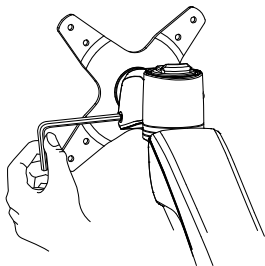

Figure 21
1. While **Supporting** the weight of the **Monitor**, use the **Hex Key** to **Loosen** or **Tighten** the **Tension Adjustment Screw**. (Figure 21)